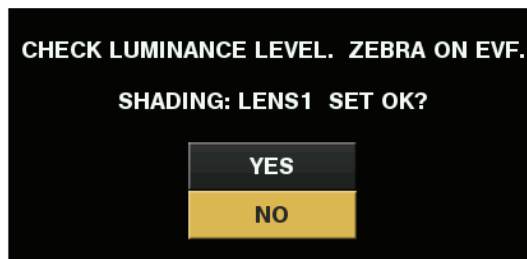

Fig. 1
- 2) Set the lens aperture to manual, and adjust it so that the zebra pattern covers the whole viewfinder screen. (Fig. 1)